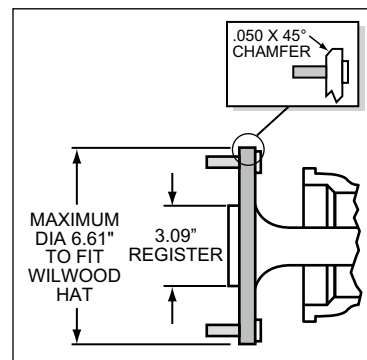

Figure 3. Axle Flange Maximum Dimension
- Axle center registration diameter is 3.09", Figure 3.
- Maximum axle flange diameter must be no larger than 6.61" w/.050" x 45° chamfer (Figure 3).